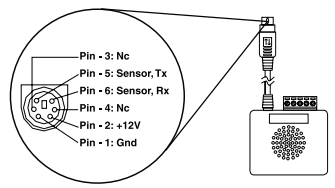

Figure 1: EnviroSense PS/2 Connector
- Plug the EnviroSense sensor's PS/2 connector (Figure 1) into the SNMP accessory card's PS/2 port. Refer to the SNMP accessory card (or PDU) documentation to locate this port.